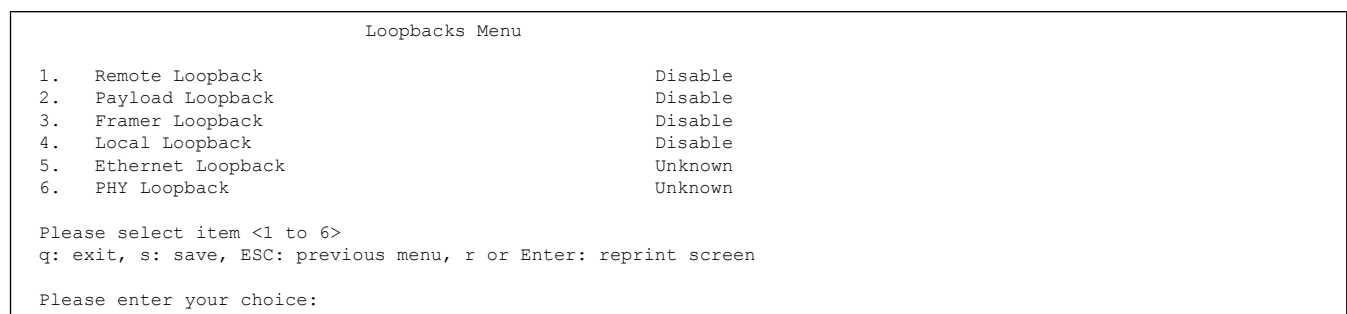

Figure 5-9. Loopbacks Menu
- 5) The **Loopbacks Menu** is displayed (Figure 5-9).